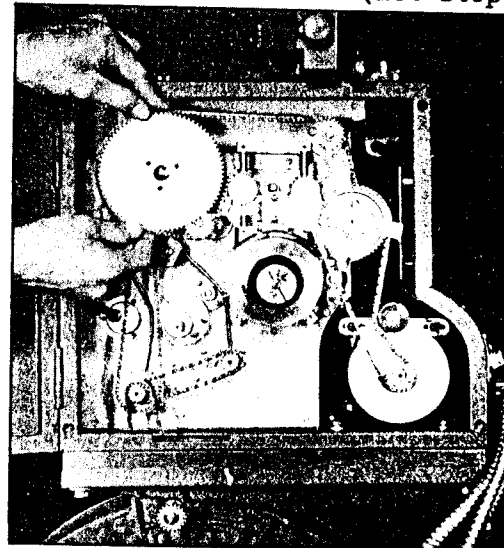

Figure 16.
- b. Examine the chain drive system, noting particularly each chain roller and sprocket, and just how the chain rides on each. Remove the large chain sprocket from the shaft of the upper film feed sprocket by taking out the three screws holding this chain sprocket to its shaft. Pull this chain sprocket toward you, thus removing it and freeing the chain so that it may be dropped clear of the intermittent movement. Refer to Figure 16.